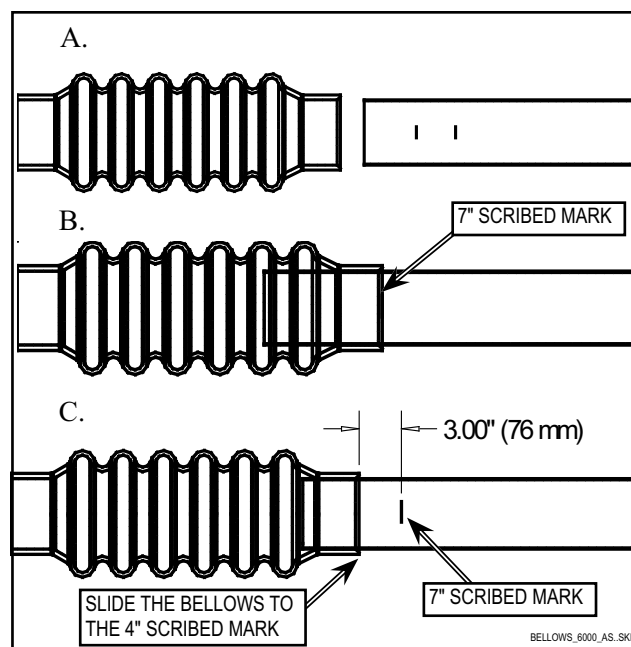

Figure 11.35 - Bellows Adjustment
Refer to *Figures 11.35 & 11.36*.
- Refer to *Figure 11.35 - A*. Scribe a mark 4" (100 mm) and 7" (178 mm) from one end of the steel transfer pipe.
- Slide the bellows onto the steel line to the 7" scribe mark as shown in *Figure 11.35 - B*. Tighten the band clamp so that the bellows is snug on the steel transfer line.
- Refer to *Figure 11.35 - C*. Slide the bellows to the 4" (100 mm) scribe mark. Tighten the band clamp around the bellows and steel transfer line.